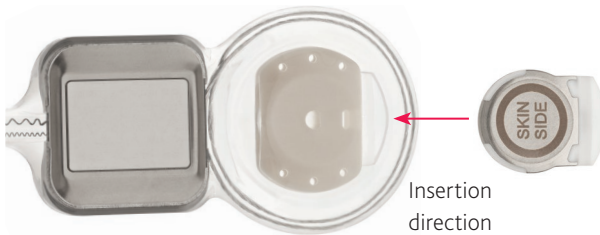

Figure 36: Replacement magnet cassette insertion direction
- the engraving SKIN SIDE (or MRI) is facing up – see *Figure 36* below.